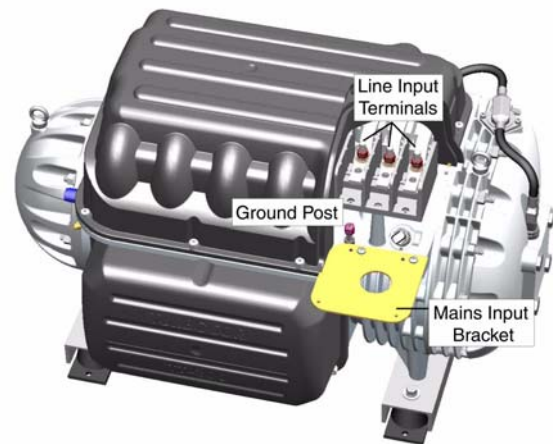

Figure 6-1 AC Mains Terminal Block
3. Using a 14 mm socket and driver, remove the terminal nuts from the terminal block. Refer to Figure 6-1.
15. Using a 14 mm socket and driver, attach the terminal nuts to the terminal block . Tighten the terminal nuts to 192 in-lbs. Refer to Figure 6-1.